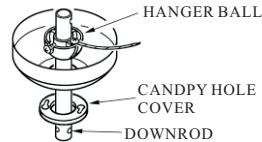

FIG.2
2. Insert the down rod through the center opening in the canopy, coupling cover and route the motor leads through the downrod. (see fig 2)